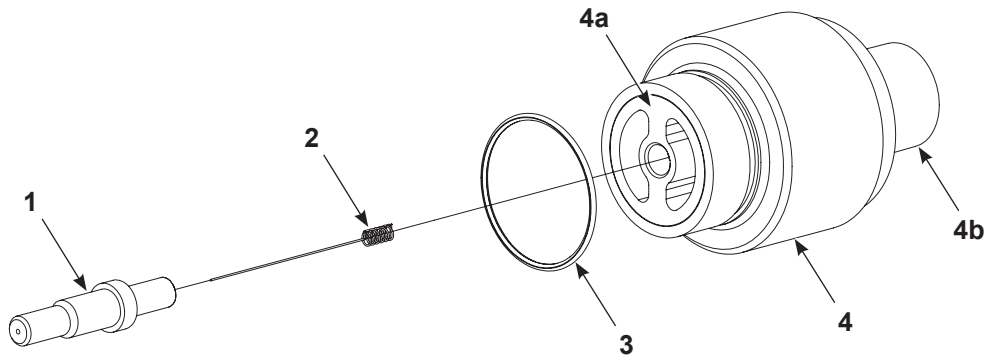

Figure 7-5 XD Electrode Support Assembly
**XD Electrode Support Details:** (See Figure 7-5)
- The electrode support consists of items (3 and 4).
- The electrode support (4) contains a resistor. If the resistor fails, the entire assembly must be replaced.
- The electrode holder (1) and electrode (2) are sold separately. Conical and flat/corner spray nozzles use different electrode holders.
1. Unscrew the electrode holder (1) and remove the electrode (2).